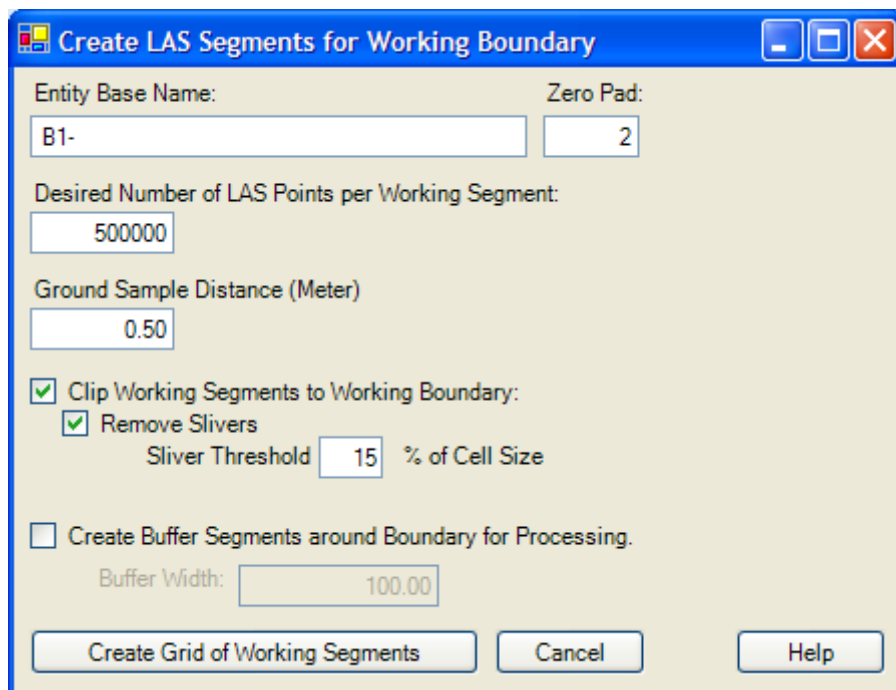

Figure 12-32 Creating LAS Segments for the Helsinki project
5. Use the checklist on the Boundary to create LAS Working Segments (we used the settings shown in Figure 12-32)